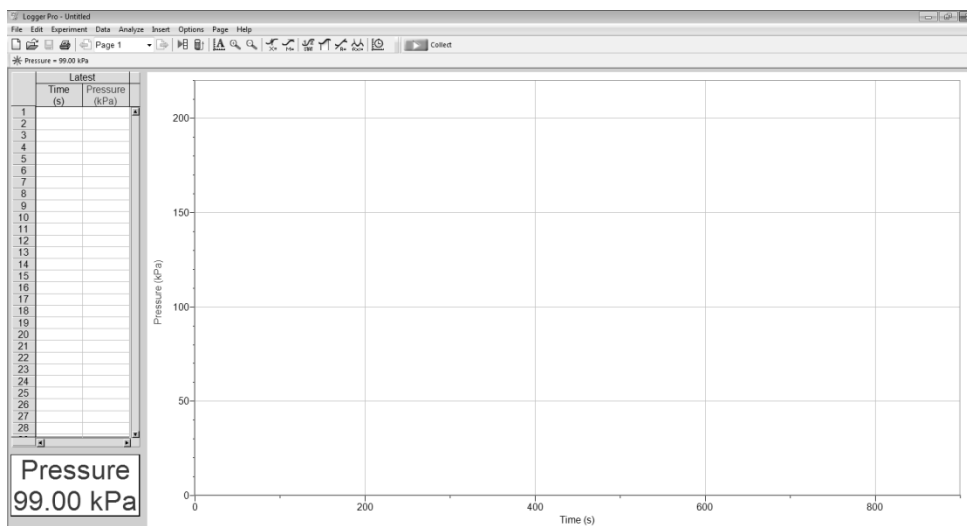

Figure 2. The Logger Pro window. In this example, the pressure is 99.00 kPa.
5. Open the Logger Pro software on the laptop computer. The computer monitor will display the pressure of the air that is trapped inside of the syringe, measured by the gas pressure sensor. This pressure is shown in the lower left corner of the Logger Pro window (see Figure 2). As you adjust the volume, you will record the pressure of the air inside the syringe in your data table in the column labeled “Pressure”.